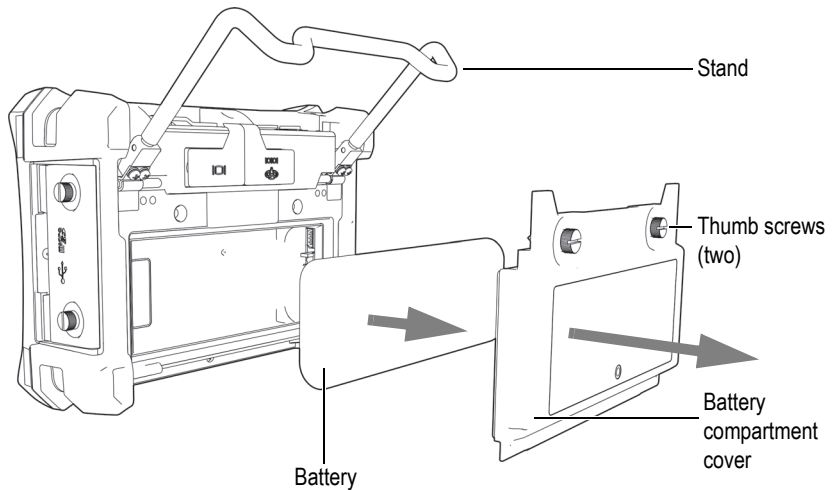

Figure 2-10 Removing the lithium-ion battery
1. Unfold the BondMaster 600 stand (see Figure 2-10 on page 43).